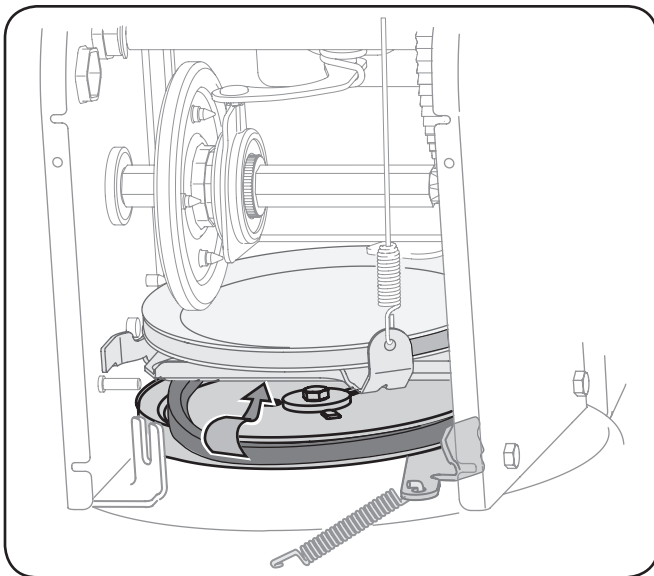

Fig. 7-6
8. Remove the belt from around the auger pulley, and slip the belt between the support bracket and the auger pulley. See Fig. 7-6.